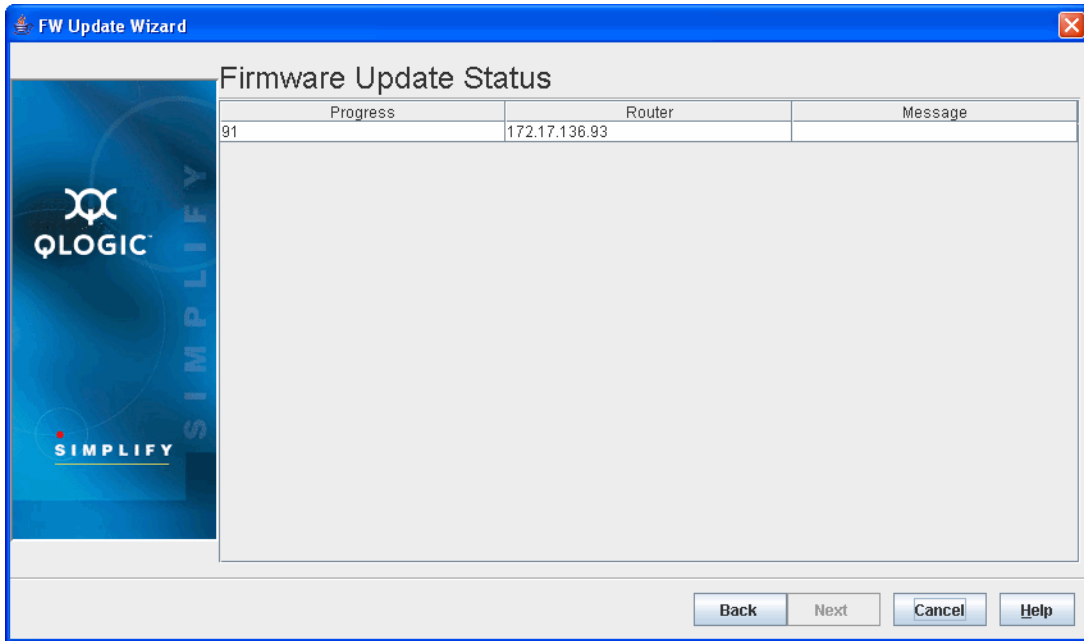

Figure 7-51 Firmware Update Status Dialog Box—Progress
5. The **Firmware Update Status** dialog box shows the progress of the update in the message section, as shown in Figure 7-51.